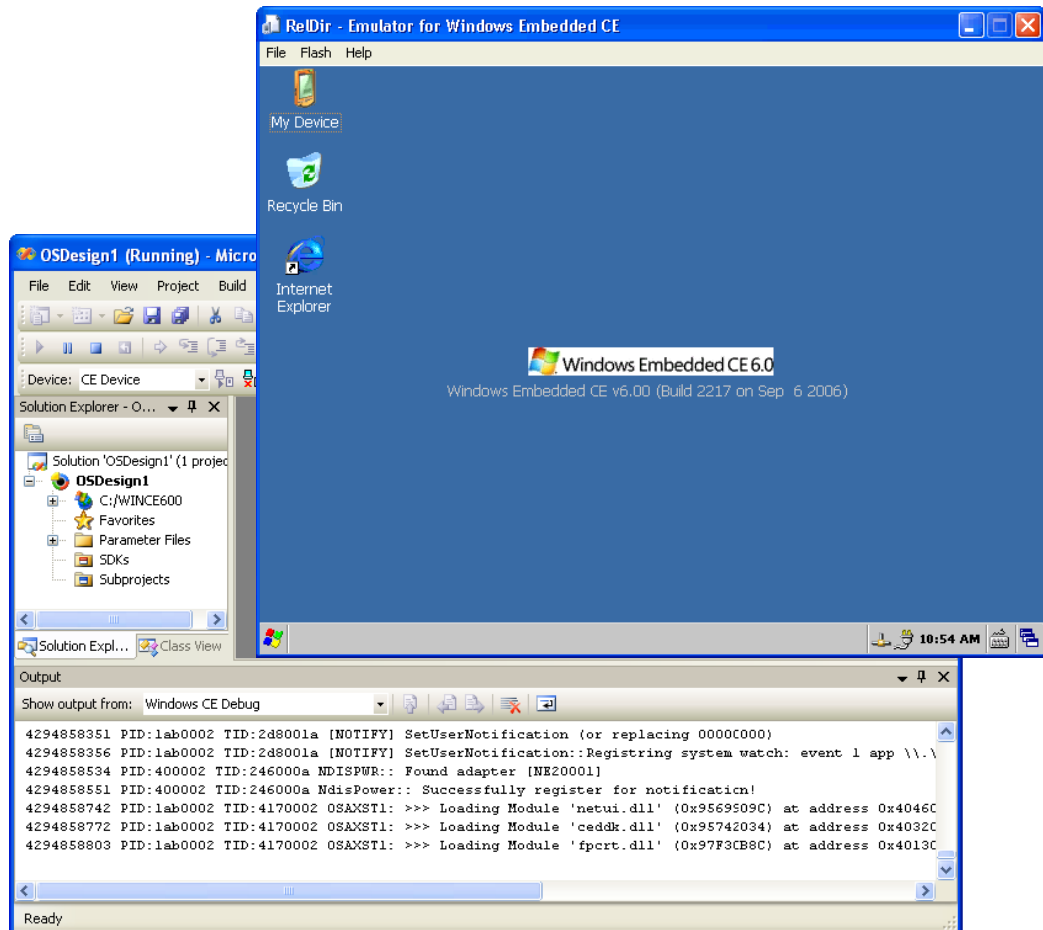

Figure 2-11 Windows Embedded CE device emulator
4. Wait until Windows Embedded CE has completed the start process, and then interact with the Device Emulator and test the features of your OS design, as illustrated in Figure 2-11.